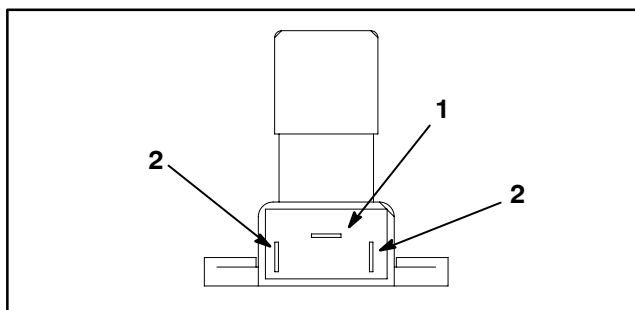

Figure 33
2. The switch terminals are shown in Figure 33. Continuity should exist between the common terminal and only one of the side terminals. When the switch is depressed, continuity should exist between the common terminal and the other side terminal. Regardless of switch position, there should never be continuity between the two side terminals.